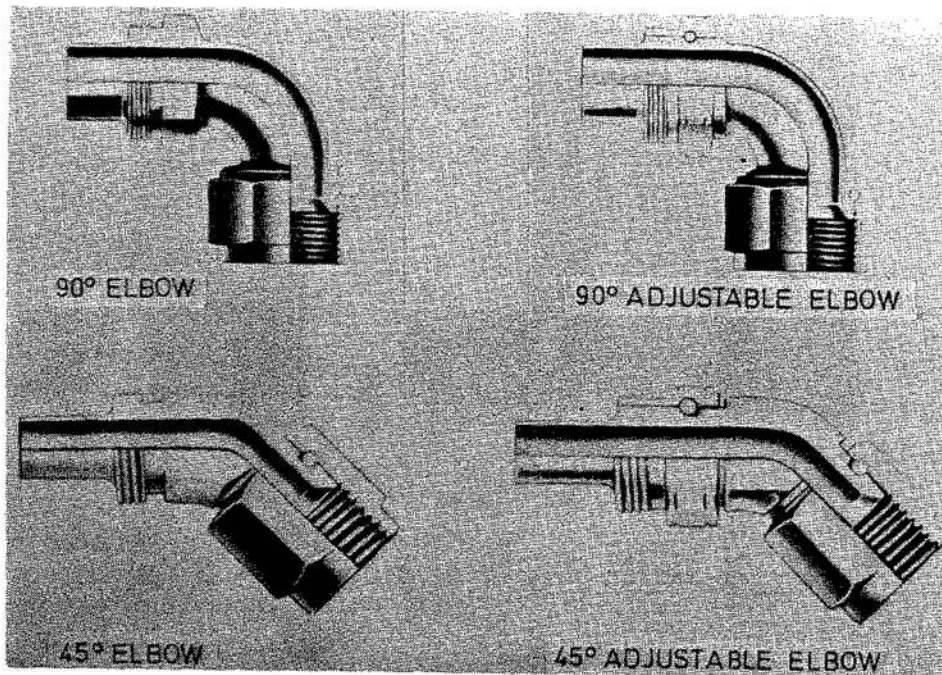

Fig. 9 Typical elbow fittings
18. The various fittings available include 45° and 90° elbows. Fig. 9 illustrates the elbows for 'Super Gem' fittings and similar elbows are
19. Elbow fittings can be provided in an adjustable form where the nipple, regardless of manufacturing method, consists of two separate pieces (refer to fig. 9); the nipple hexagon and socket securing thread is machined separately to be a sliding fit on a raised surface of the nipple and is retained on the nipple by a wire insert. This arrangement allows the nipple to be rotated through 360 degrees even when assembled to the hose.